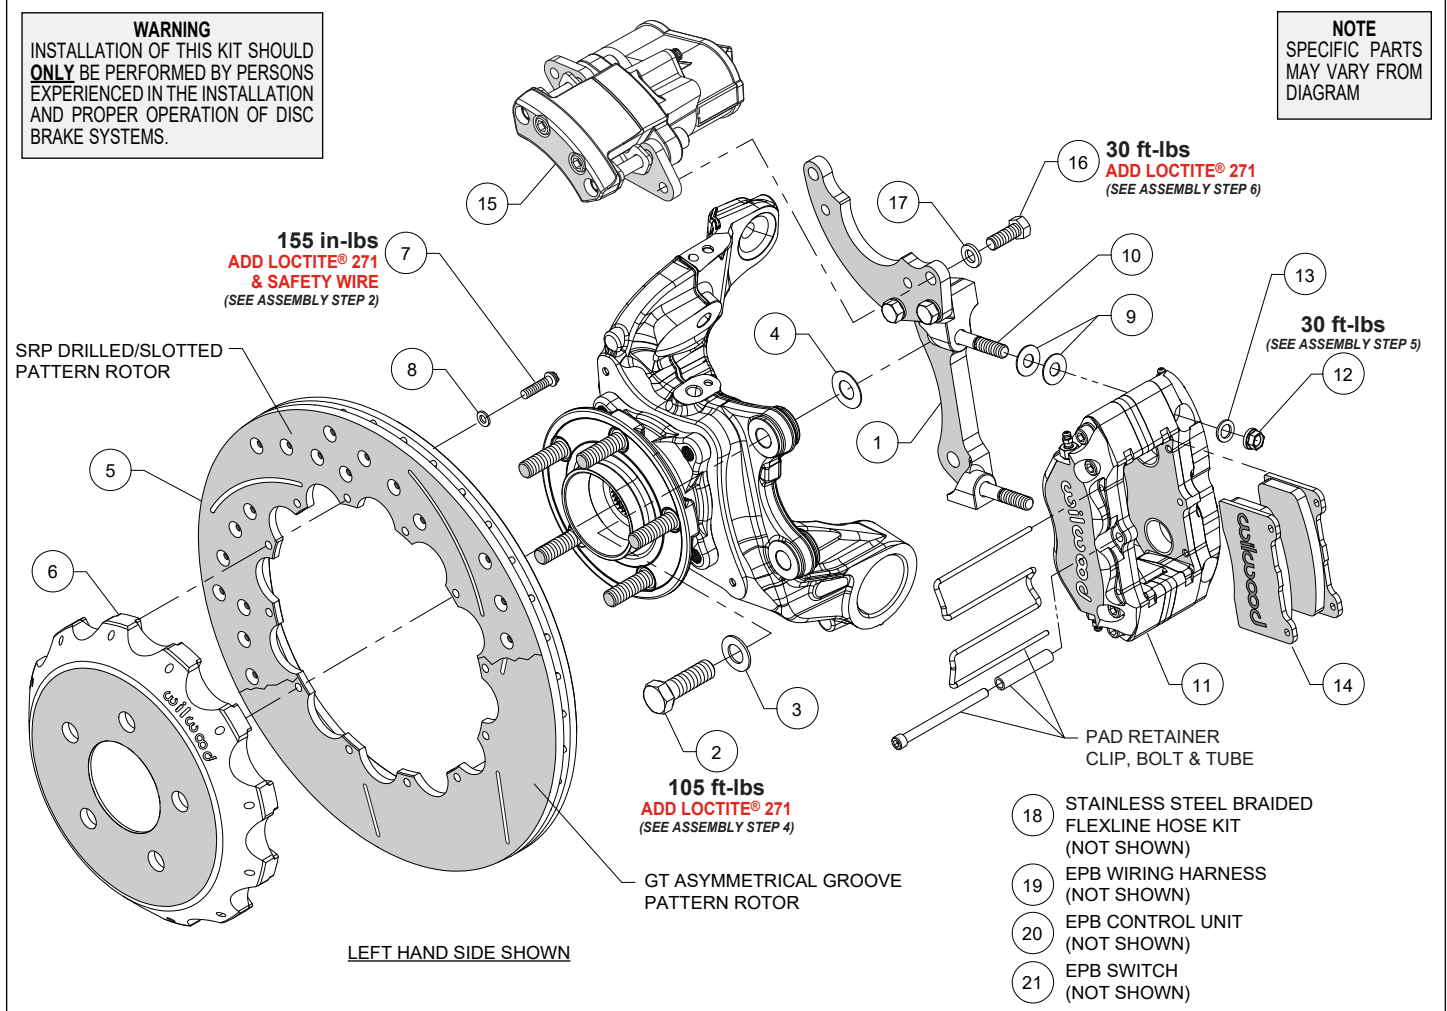
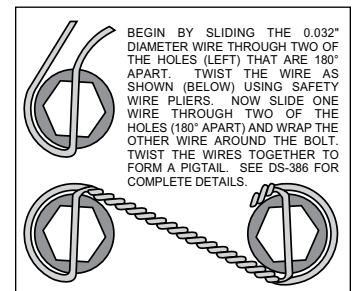

Figure 1. Typical Installation Configuration
Figure 3. Safety Wire Diagram
NOTE: Numbers in parenthesis refer to the parts list and Figure 1 on the preceding pages.
STEP 1 The caliper mount bracket (1) should initially be installed with clean, dry threads on the mounting bolts. Orient the bracket as shown in Figure 1, and Photo 1, and install using bolts (2) and washers (3). Initially place one .029" thick shim (4) on each bolt between the bracket and upright, Figure 1. Temporarily tighten the mounting bolts. **NOTE:** *The bracket must fit squarely against the mount bosses on the upright.* Inspect for interference from casting irregularities, machining ridges, burrs, etc. Later, after the caliper alignment has been checked, the mount bolts will be secured using red *Loctite*® 271.
STEP 2 Orient the rotor (5) and the hat (6) as shown in Figure 1 and Photo 2. Attach rotor to hat using bolts (7) and washers (8). Apply red *Loctite*® 271 to the bolt threads and torque to value shown in Figure 1 using a criss-cross pattern. For an added measure of security, the bolts may be safety wired using standard 0.032 inch diameter stainless steel safety wire as shown in Figure 3. Please refer to Wilwood's data sheet DS-386 (available at www.wilwood.com/Pdf/DataSheets/ds386.pdf) for complete safety wire installation instructions.
STEP 4 Initially place two .035" thick shims (9) on each stud (10) as shown in Figure 1 and Photo 4. Mount the caliper (11) onto the bracket (1) using lock nuts (12) and washers (13), Figure 1. Temporarily tighten the lock nuts and view the rotor through the top opening of the caliper. The rotor should be centered in the caliper, Photo 5. If not, adjust by adding or subtracting shims (4) between the bracket and the mounting bosses. Always use the same amount of shims on each of the two mounting bolts. Once the caliper alignment is correct, remove the bracket mounting bolts (2) one at a time, apply red *Loctite*® 271 to the threads, and torque to value shown in Figure 1.
STEP 5 Insert the brake pads (14) into the caliper (11) with the friction material facing the rotor (5), as shown in Figure 1 and Photo 6. Check that the top of the brake pad is flush with the outside diameter of the rotor, Photo 7. If not, adjust by adding or
subtracting shims (9) between the caliper and the bracket. After the caliper pad height is set, torque the caliper lock nuts (12) to value shown in Figure 1. Secure the pads in place using the pad clip retainer as well as the pad retainer tube and bolt, Photo 8. The bolt should be snug without play in the tube. Be cautious not to over tighten.
STEP 6 Mount the EPB caliper (15) onto bracket (1) using bolts (16) and washers (17), as shown in Figure 1 and Photo 9. Apply red *Loctite*® 271 to bolt threads, and torque to value shown in Figure 1.
STEP 8 Attach supplied brake line to caliper. **NOTE:** OEM rubber brake hoses generally cannot be adapted to Wilwood calipers. Install Wilwood's stainless steel braided flexline hose kit (18), p/n 220-12092 included with this kit. The caliper inlet fitting is a 1/8-27 NPT. Use the included steel adapter fitting at the caliper (use PTFE tape on the pipe threads of adapter fitting for proper sealing to caliper). **NOTE:** Be sure to attach the bracket for the fitting to the Factory Five Roadster chassis in a location which will allow full suspension travel and will not cause the line to have tension or be pinched, Photo 10. **Ensure hoses are routed to prevent contact with moving suspension, brake or wheel components.**